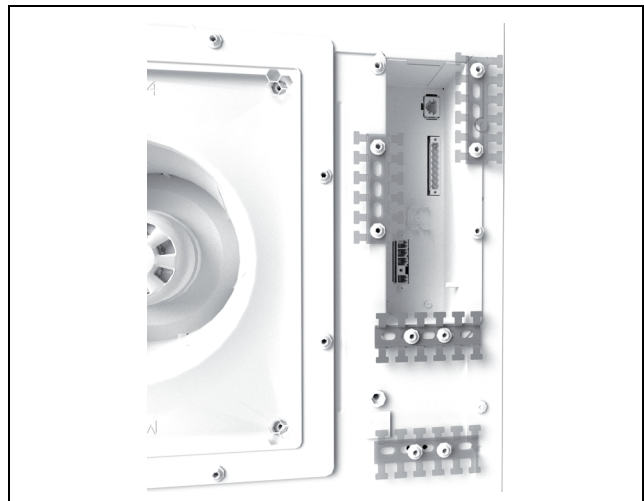

Fig. 39: Attach the T-rail (example illustration)
– The cable shield can make contact with the T-rail (fig. 39).